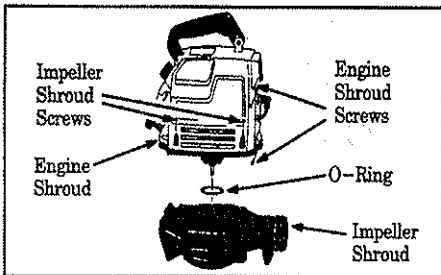

Figure 14
3. Remove the 4 impeller shroud screws and the 2 engine shroud screws. Figure 14. Remove the impeller shroud from the engine shroud.
NOTE: Be sure the rubber O-ring is installed onto the pulley housing. See Figure 14.